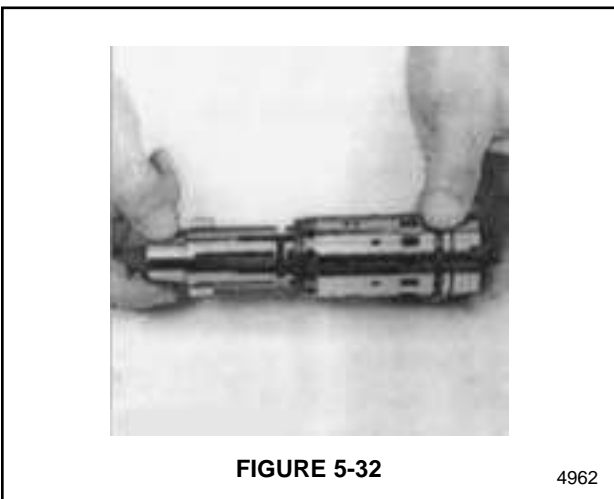

FIGURE 5-32
3. Insert the spool into the sleeve. See Figure 5-32. Use care so that the sleeve and spool are correctly assembled. The spring slot in the sleeve must align with the spring slot in the spool. Also, one of the T shaped slots (A) in the spool must align with one of the small